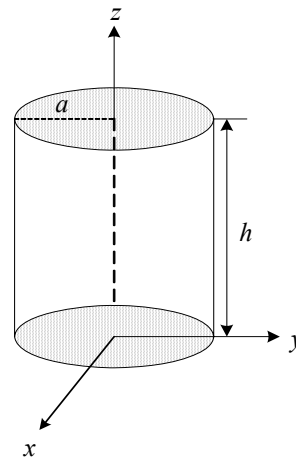

Figure 2: The surface for problem 4
**Problem 4.** Consider the closed cylindrical surface of height  $h$  and base radius  $a$  as shown in figure 2. Evaluate the closed surface integral of  $\mathbf{F}$  over this surface if: **(a)**  $\mathbf{F} = \rho^2 \mathbf{a}_\rho + \rho \sin \phi \mathbf{a}_\phi + \rho^2 \sin \phi \mathbf{a}_z$ . **(b)**  $\mathbf{F} = x \mathbf{a}_x + z \mathbf{a}_z$ .